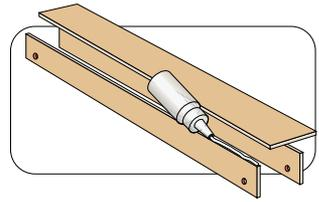

Figure 3
3. Use glue to connect the two pieces to a second strip of balsa wood (Figure 3). The pieces should be glued to each side of the wood at a 90° angle.